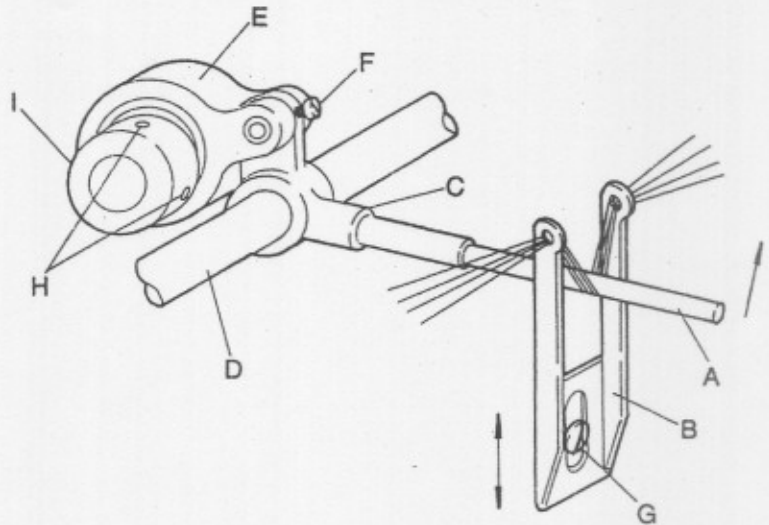

Fig 19
1. Loosen the retainer eccentric screw H in Fig. 19. and then tighten this screw provisionally.
2. Rotating the pulley, adjust the looper retainer to be correct. This time, in turning the retainer eccentric I in Fig 19. to counterclockwise, the looper retainer becomes faster, and doing to clockwise, the looper retainer becomes slower.
3. For the subtle adjustment, loosen the screw G in Fig 19. and then adjust by moving the retainer thread eyelet up to down.